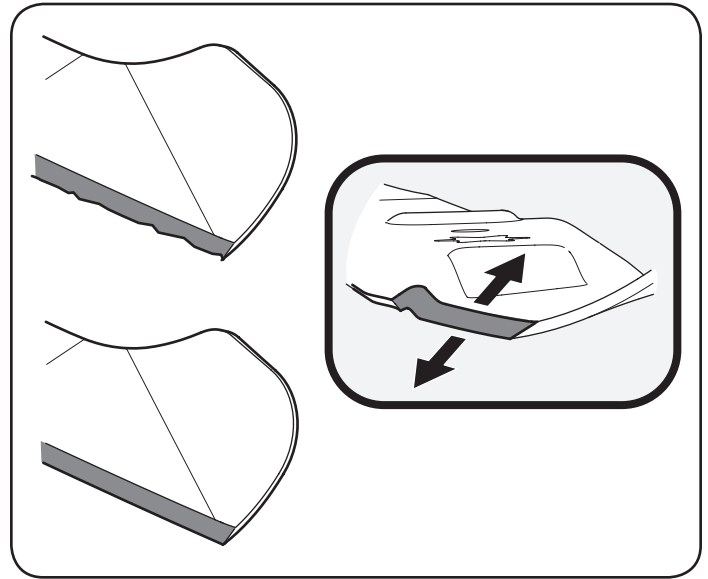

Figure 32
4. To properly sharpen the cutting blades, remove equal amounts of metal from both ends of the blades along the cutting edges, parallel to the trailing edge, at a 25°- to 30° angle. Always grind each cutting blade edge equally to maintain proper blade balance. See Figure 32.